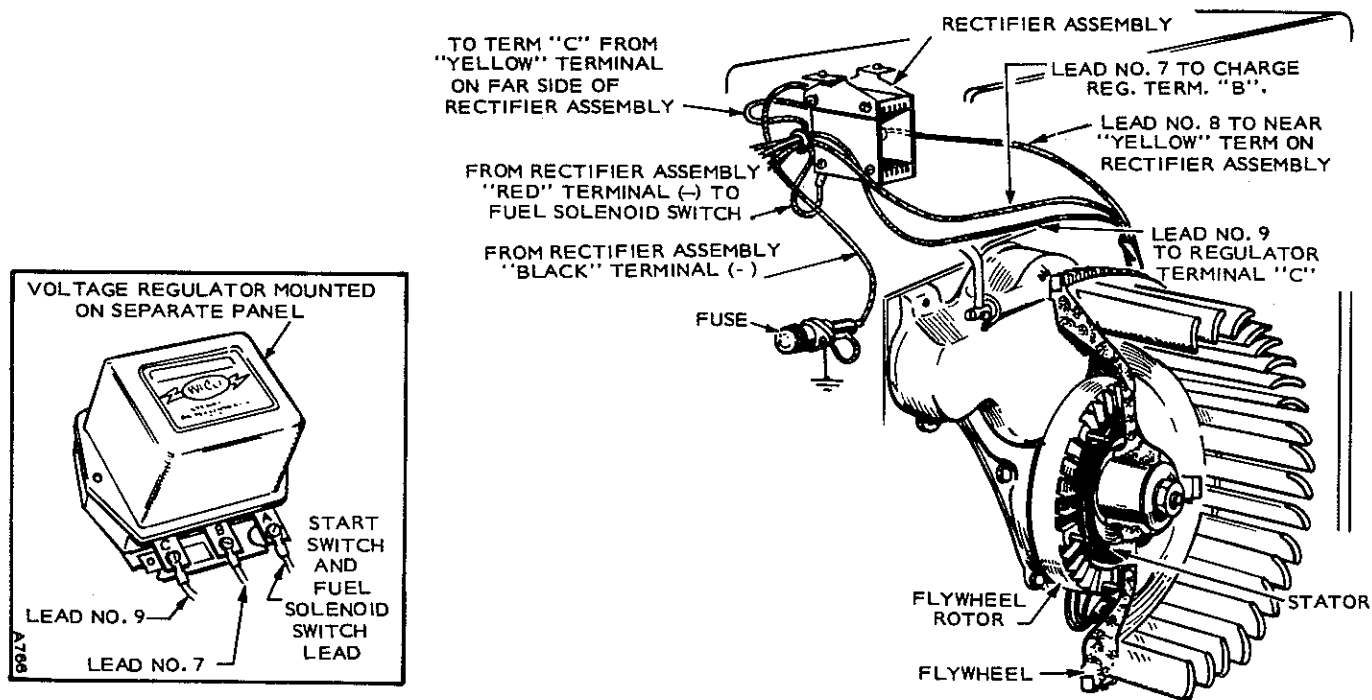

FIGURE 10-65. FLYWHEEL ALTERNATOR
- A full wave rectifier converts the regulated AC to DC for battery charging. Alternator components are shown in Figure 10-65.